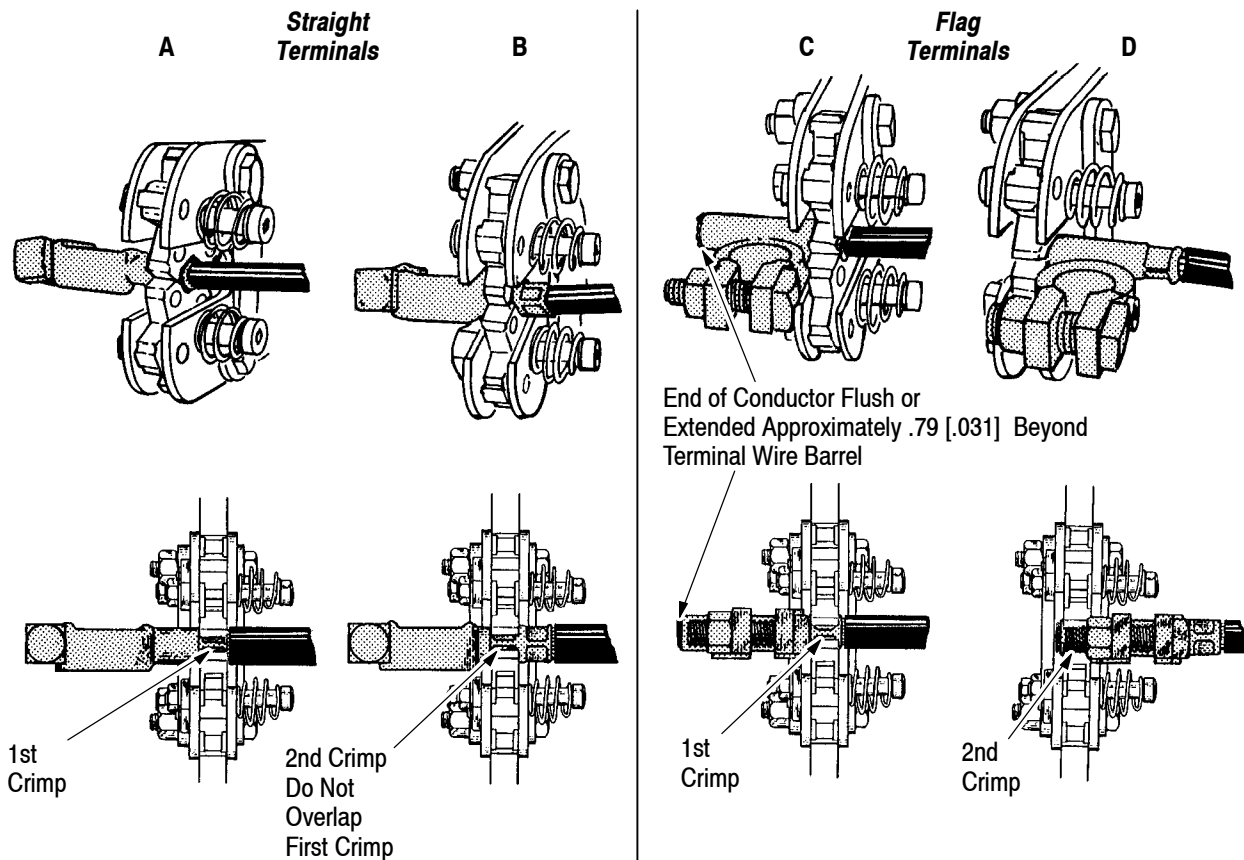

Figure 6
4.3. Crimping Procedure for Straight Terminals (Figure 6)
4.4. Crimping Procedure for Flag Terminals (Figure 6)
A. First Crimp (Figure 6)
B. Second Crimp (Figure 6)